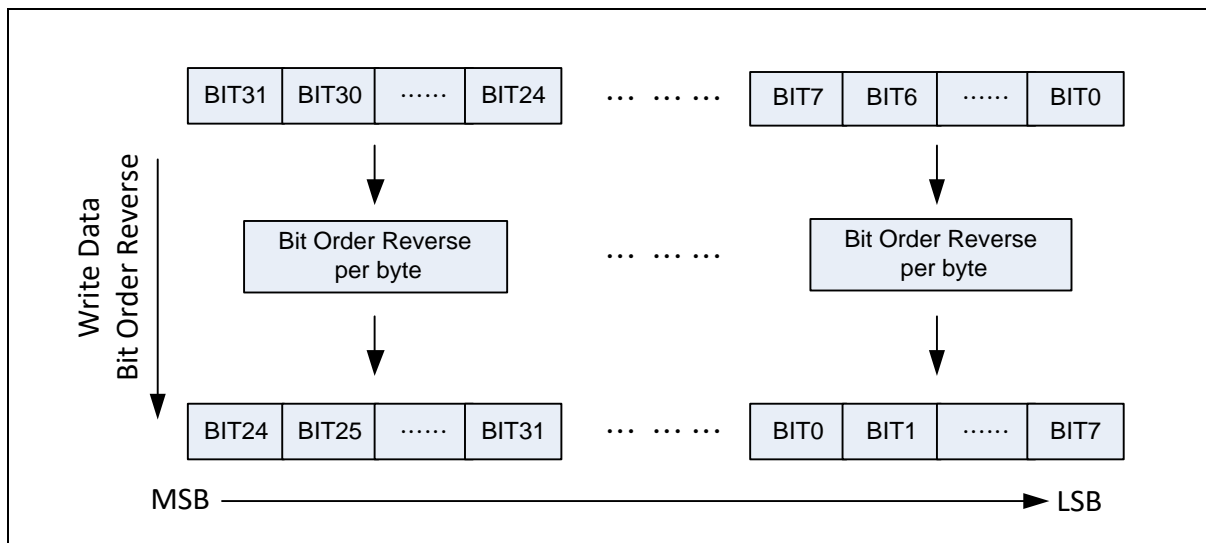

Figure 6.17-3 Write Data Bit Order Reverse Functional Block
- 4) Configure bit order reverse for CRC write data per byte by setting DATREV (CRC_CTL[24] Write Data Bit Order Reverse). The functional block is also shown in Figure 6.17-3.